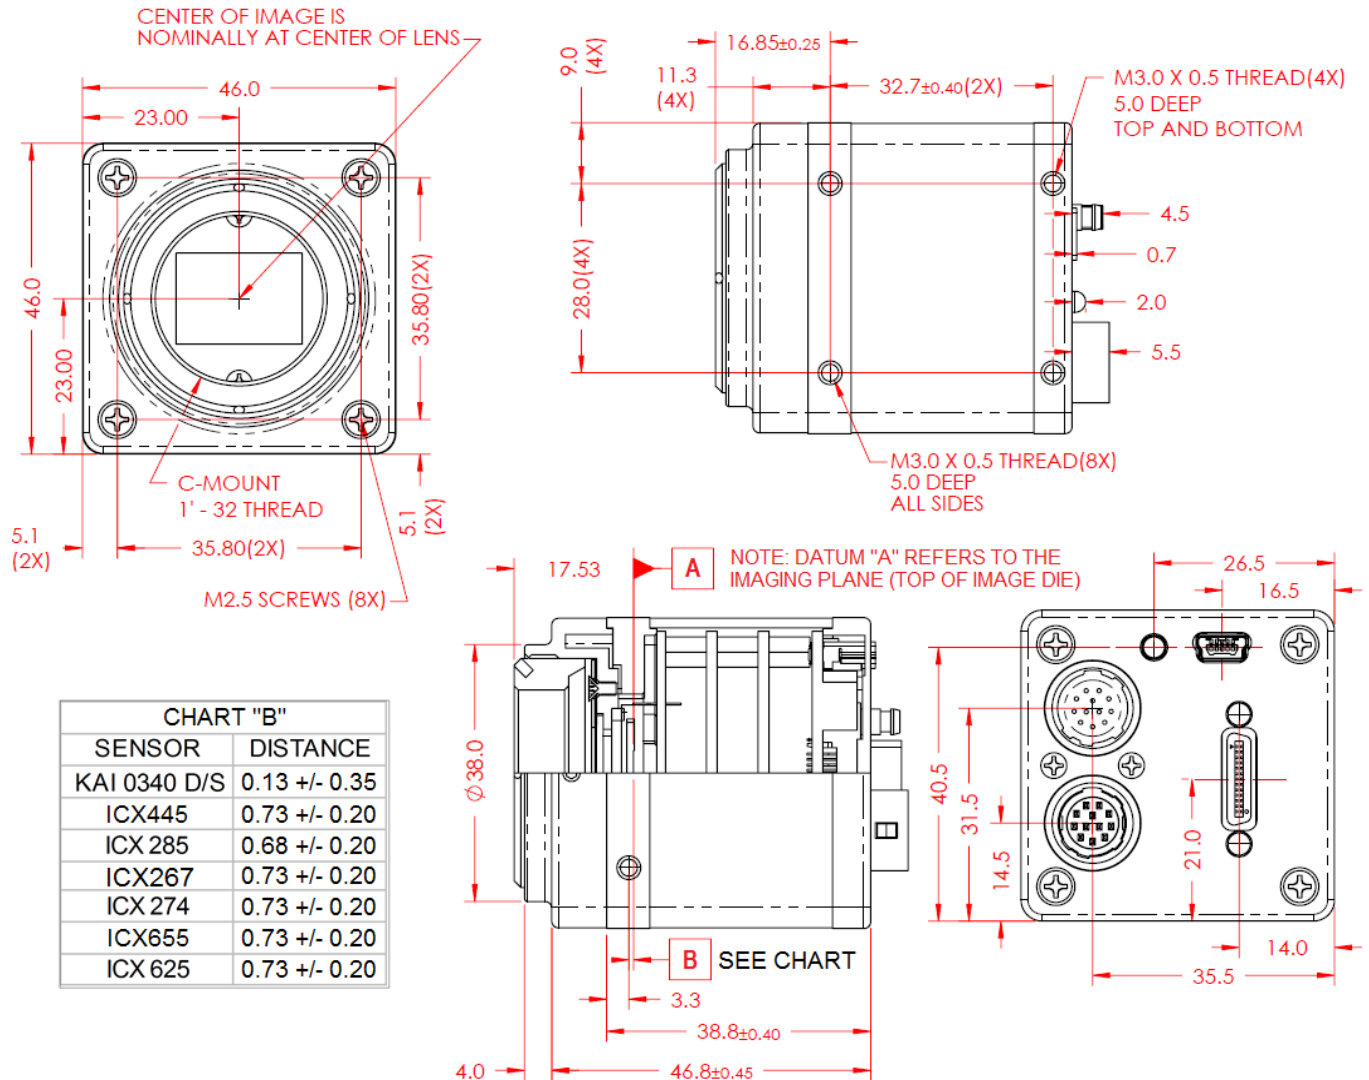
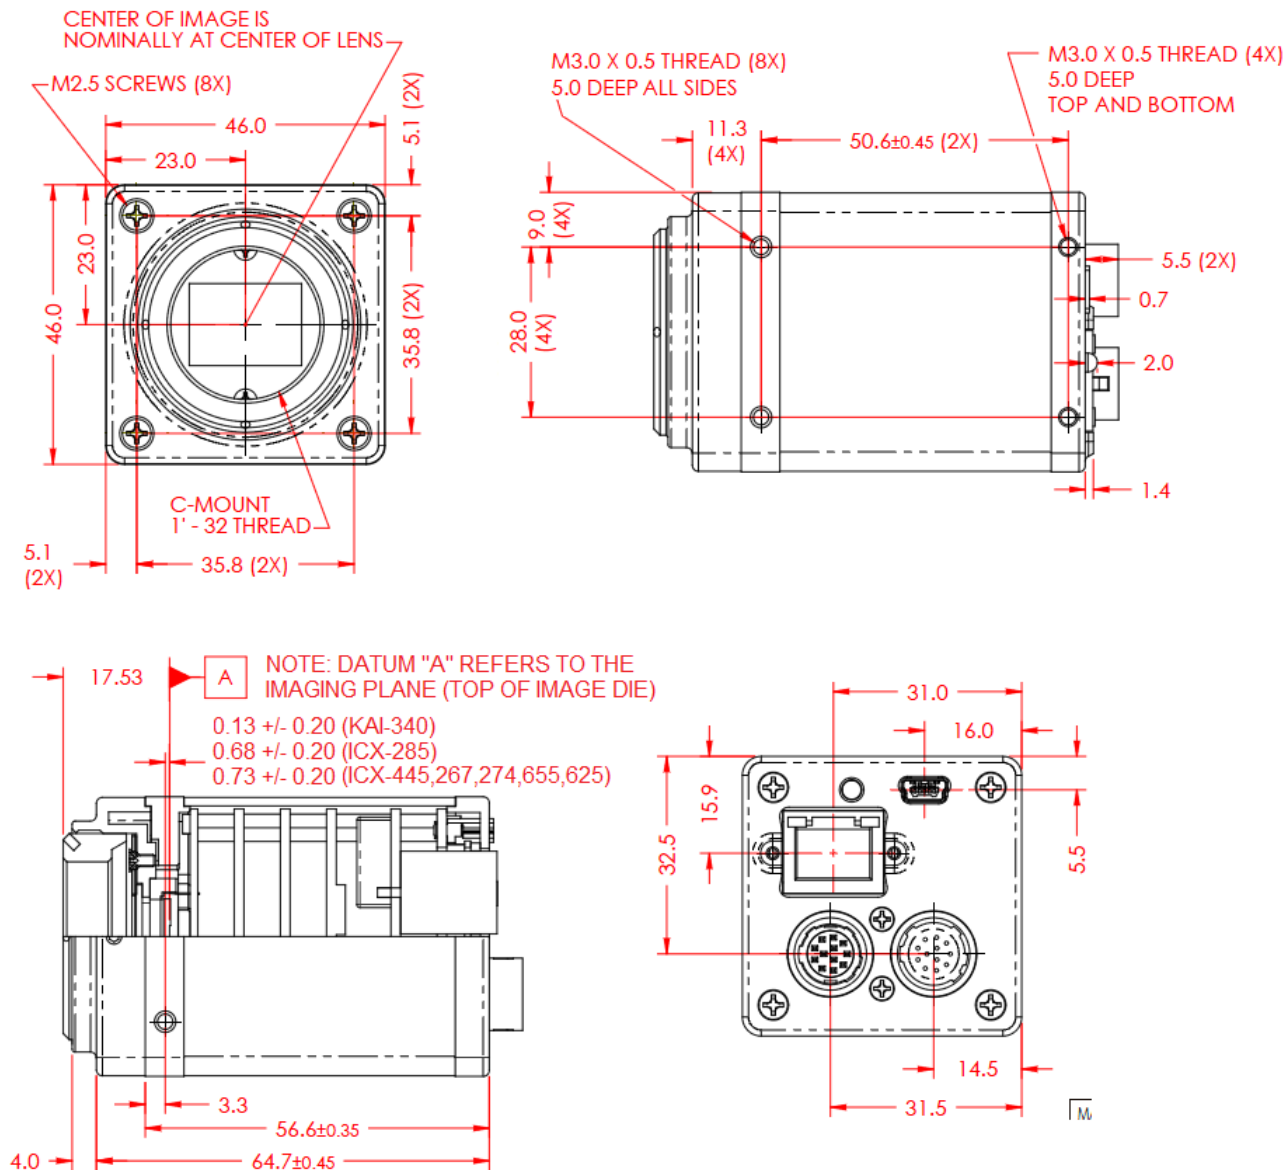
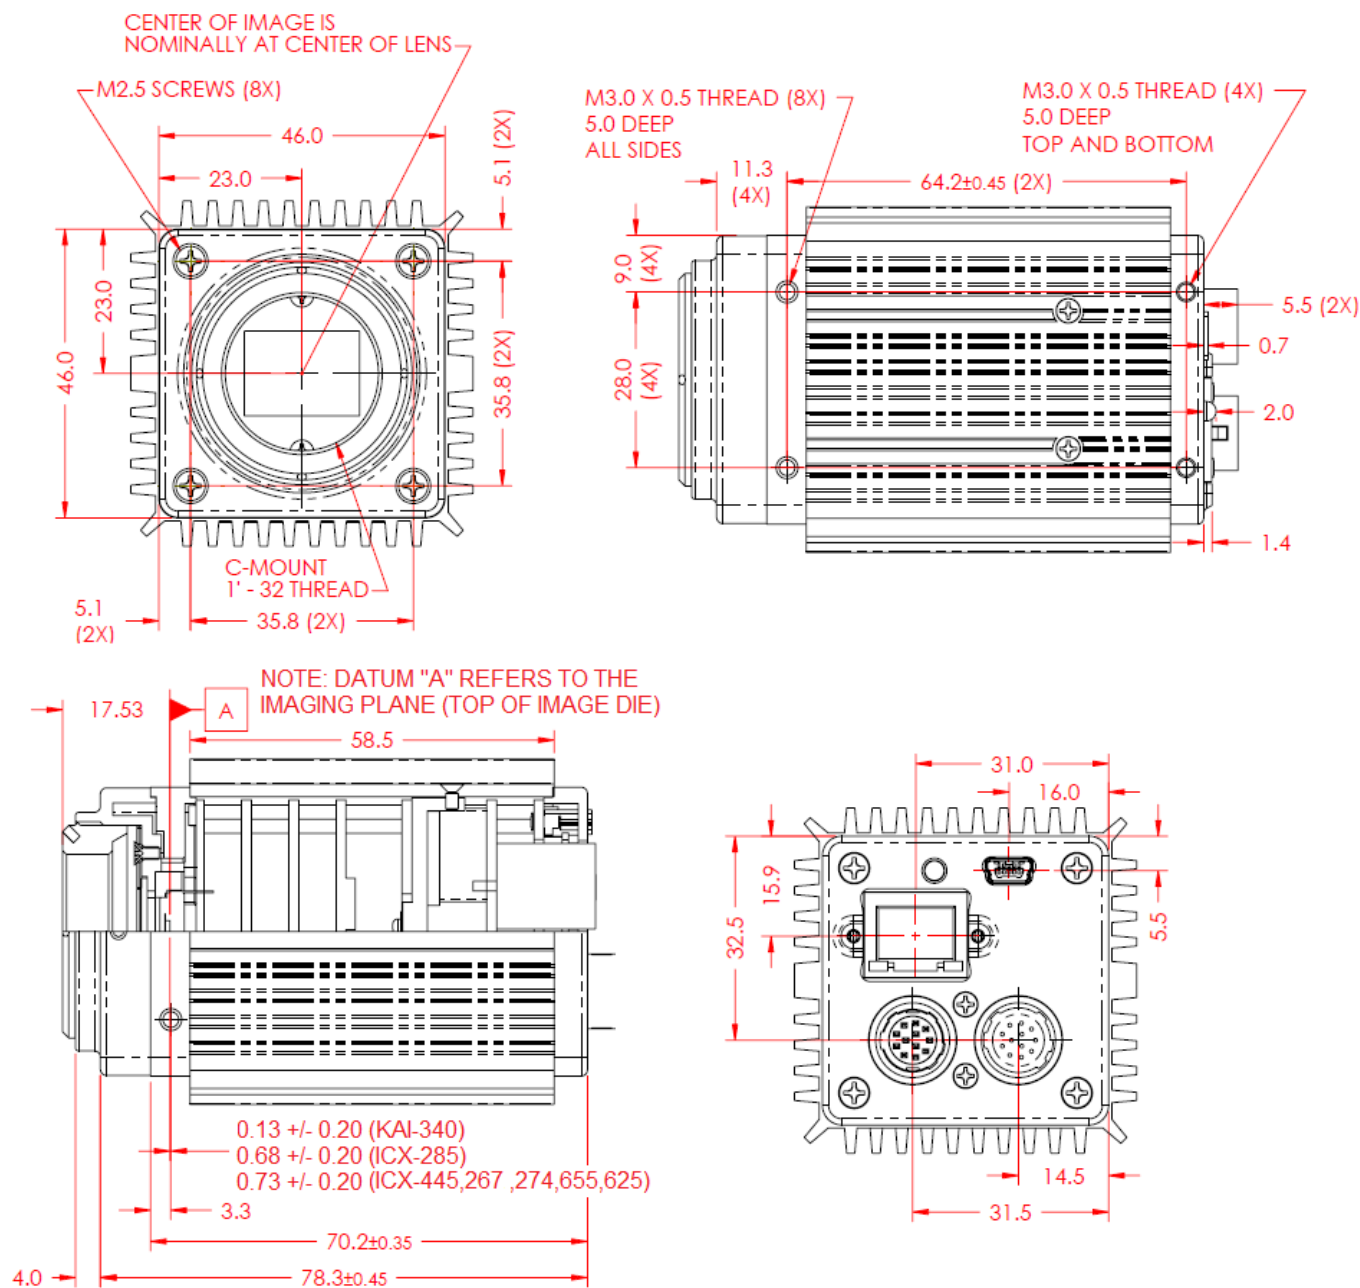

Figure 1.9a – C-mount Camera Link Output – Dimensional Drawings for CLB-B0610, B0620, B1310, B1410, B1411, B1610, B2510, and B2520.
Figure 1.10a – C-mount GigE Vision Output – Dimensional Drawings for GEV-B0610, B0620, B1410, B1610, B2510, and B2520.
Figure 1.11a – C-mount PoE GigE Vision Output – Dimensional Drawings for PoE-B0610, B0620, B1410, B1610, B2510, and B2520.
The camera housing is manufactured using high quality 6000 series aluminum alloy. For maximum flexibility, the camera has twelve (12) M3X0.5mm mounting screws, located towards the front and the back. An additional plate with ¼-20 UNC (tripod mount) and hardware is shipped with each camera. Mechanical drawings for C and F-Mount Camera Link output cameras are found in Figures 1.9a to 1.9k. Mechanical drawings for C and F-Mount GigE Vision (GEV) output cameras are found in Figures 1.10a to 1.10g. Mechanical drawings for C and F-Mount PoE GigE Vision (GEV) output cameras are found in Figures 1.11a to 1.11g. Mechanical drawings for C and F-Mount CoaXPress (CXP) output cameras are found in Figures 1.12a to 1.12g. All dimensions are in millimeters.